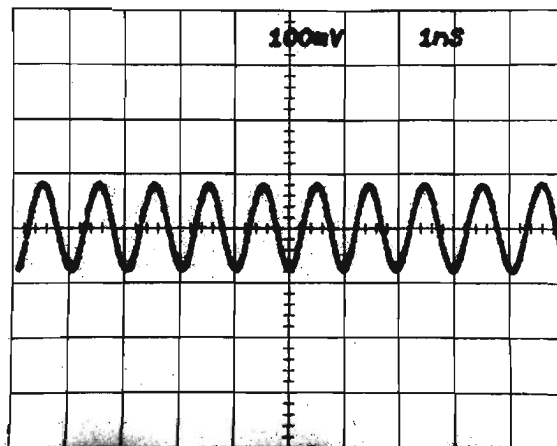

Fig. 7-4. 1 GHz SYNC.
- Adjust the 7S14 TRIGGERING LEVEL control to synchronize on a 1 ns sine wave (see Fig. 7-4).
d. Remove the test probe, release the 7A13 DISPLAY button, and check that it is possible to trigger a waveform (see Fig. 7-4) using the 7S14 LEVEL control.